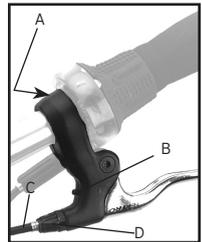

Figure 26- Lever clamp bolt, mountain lever
1. Locate the reach adjustment screw (Figure 26) and turn.